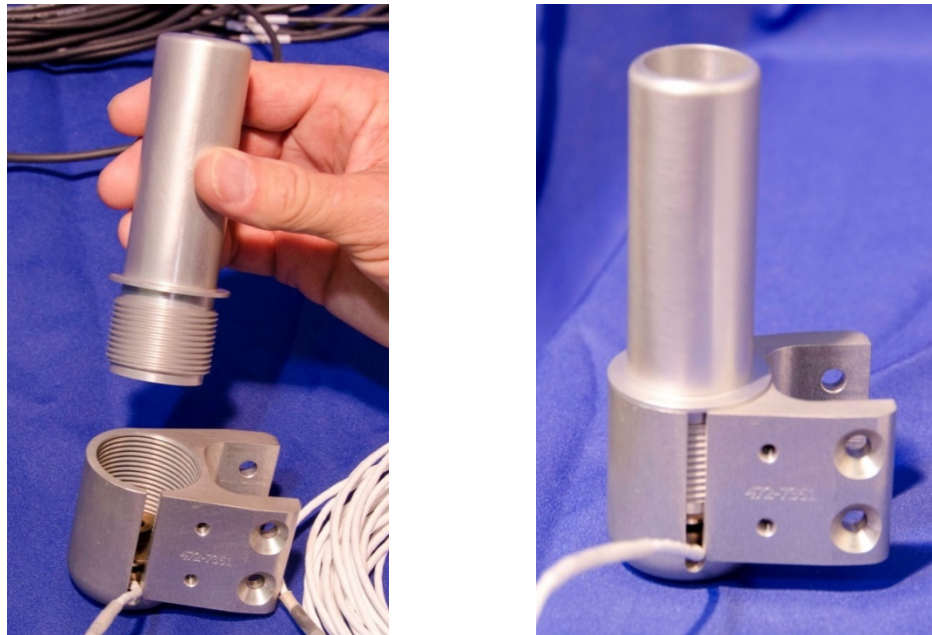

Figure 12-22. Install Achilles spring tube into spring tube base
- 12.2.2.10 Screw the Achilles Spring Tube (472-7360) into the top of the spring tube base and tighten securely (Figure 12-22).